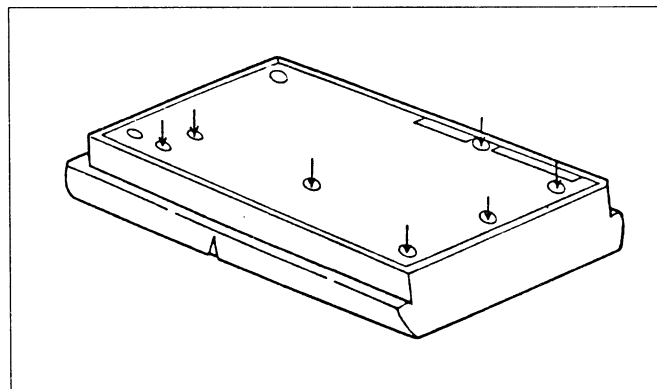

FIGURE 14 - RF SECTION W/BACK CASTING
- b. Tightening clamp screws (seven places) and egg crate mounting screws (three points) on the Radio Unit may greatly affect transmitting and receiving spurious. If the Radio Unit is disassembled for maintenance, when reassembling, tighten the screws in the unit properly (refer to Figure 14).